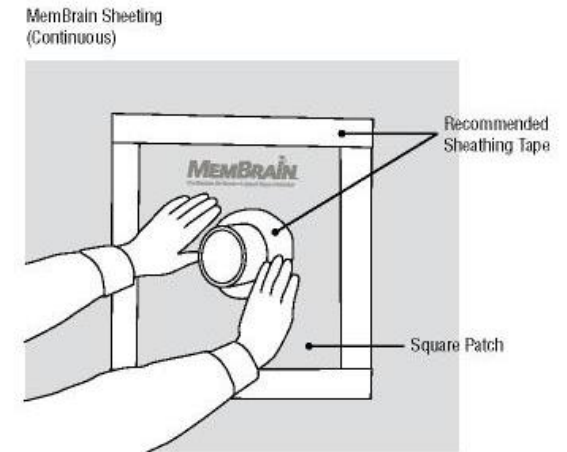

Figure 11: Patch attachment.
- Place the square patch over the penetration. (See Figure 11.)